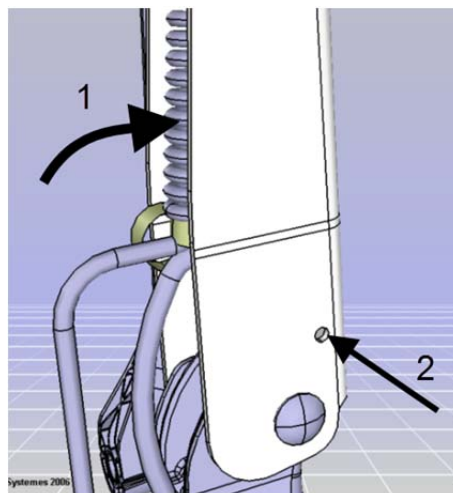

FIGURE 4
3. To ease removal, pull the arm away from the windshield (1) and then insert a small nail through the hole shown (2) to lock the wiper arm in that position (FIGURE 4).